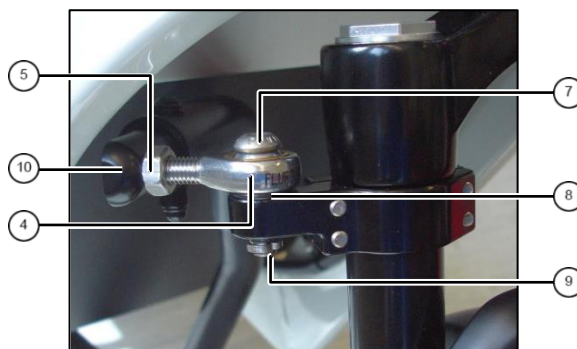

fig. 4: front linkage end
3. Turn swivel head ④ with nut ⑤ into front end ⑩ (see fig. 4). Do not tighten nut yet. Insert bolt ⑦ through swivel head and O-Ring ⑧, apply threadlock adhesive and turn bolt into steering lever. **Tightening torque: 5Nm.**
4. Install splint ⑨.